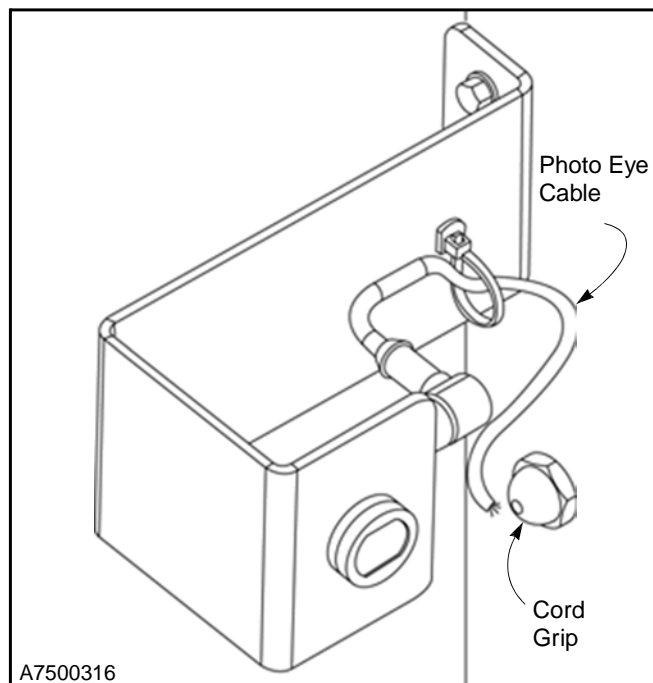

Figure 34
2. Install the cord grip in the side column, just below the photo eye assembly. (See Figure 34.)
3. Feed photo eye cable through the cord grip. Remove all slack in the cord between the photo eye and grip. Tighten the cord grip. (See Figure 34.)